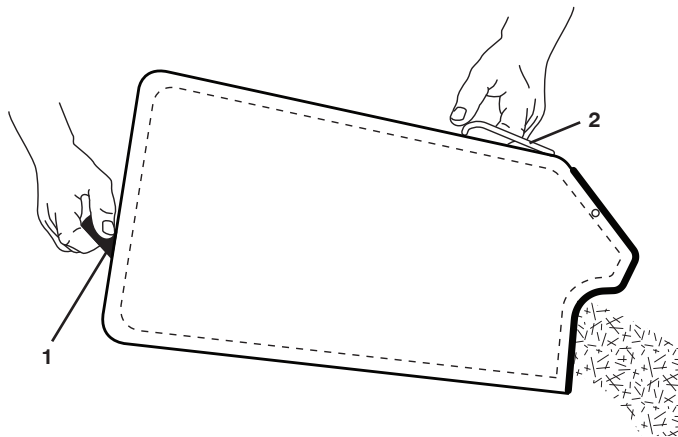

Figure 18
1. Lift up on grass catcher using the frame handle (Figure 18).